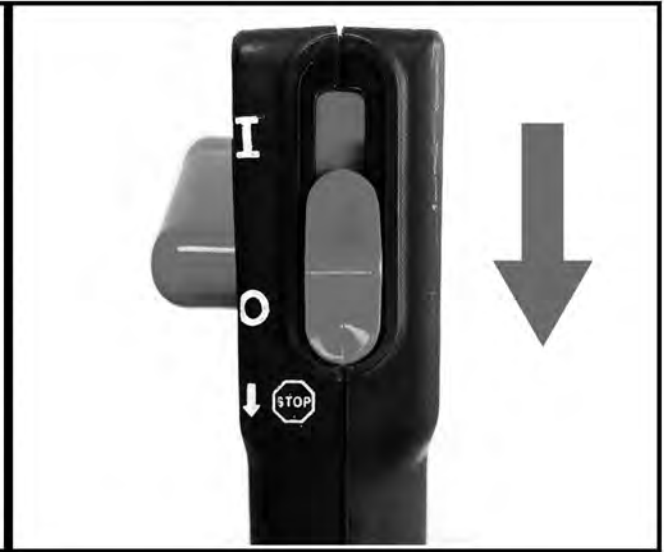

FIGURE 2
2. Move the throttle lever to the down position (O) to stop the engine. Figure 2.